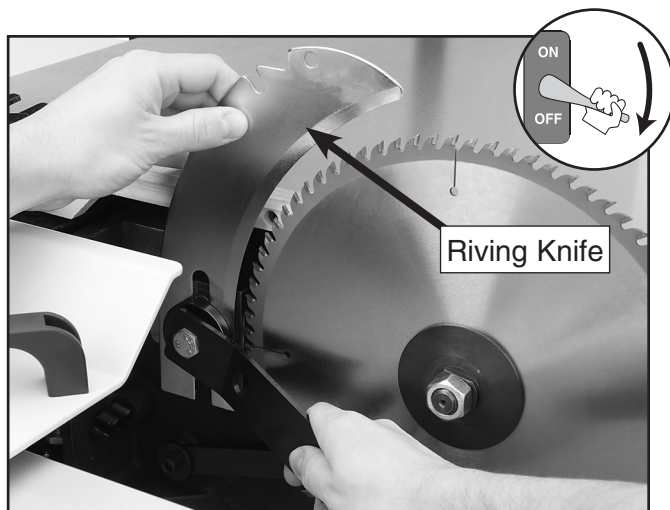

Figure 57. Re-adjusting the riving knife.
5. Loosen the riving knife center bolt, slide the riving knife away from the blade as shown in **Figure 57**, and slightly tighten.